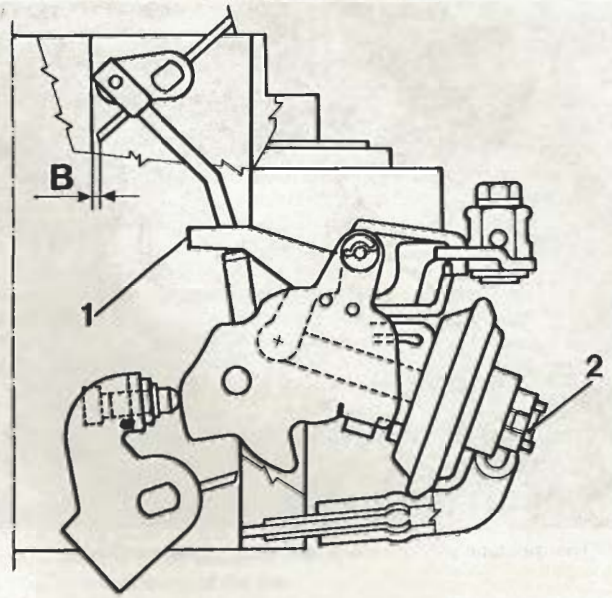

Fig. 3.7 Choke vacuum pull-down adjustment (Sec 25)
- 8 Using a screwdriver or similar suitable tool, fully depress the choke pull-down lever (see Fig. 3.7), and hold it in this position.